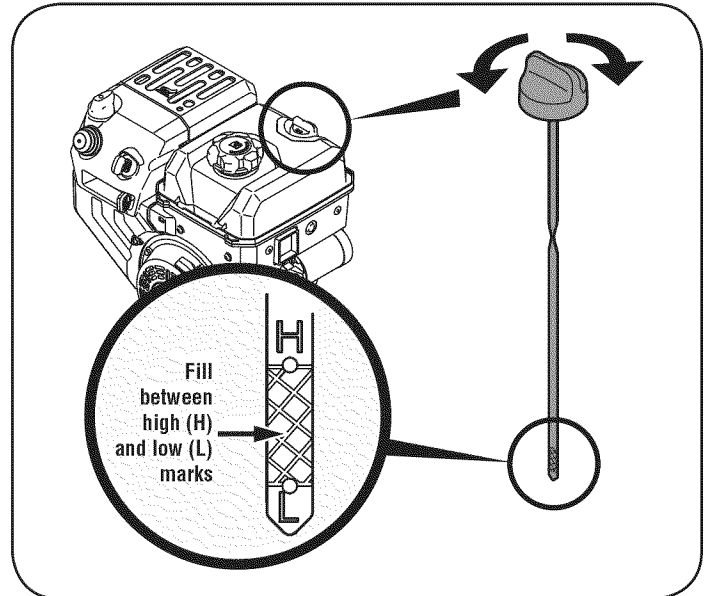

Figure 15
3. Remove the oil filler cap/dipstick. If level is low, slowly add oil until oil level registers between high (H) and low (L). See Figure 15.